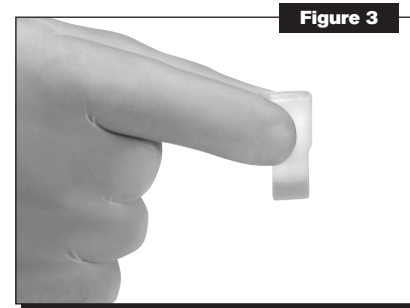

Figure 3
4. Open the Reagent Pouch and grasp the Cuvette from the top portion *only* throughout the procedure (Figure 3) (this will avoid any marks on the cuvette that will be in the light path and could affect the result).